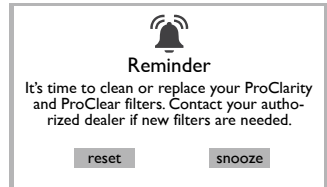

Figure 12.6f
4. When the timer expires, a message will appear on the control panel display, Figure 12.6f. The filters must be cleaned or replaced. Follow the instructions above to reset the timer. If you tap “snooze” the message will clear but the error icon ▲ will display and the reminder screen will reappear in 10 days. Refer to Section 13.1, page 50, for cleaning instructions.